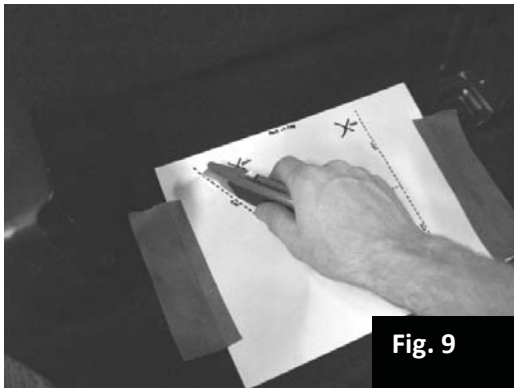

Fig. 9
20. Remove the jack and mounting plate and tape the paper template to the carpet lining up the three marks with the corresponding markings on the template. Fig. 9